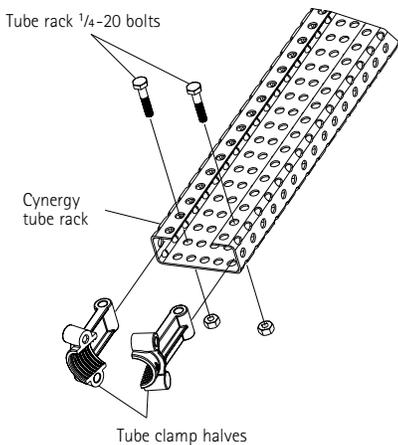

Figure 18
7. Slide one tube clamp set into one end of the tube rack. Secure the clamp halves to the rack through the second set of holes from the end of the rack using two 1/4-20 bolts and corresponding nuts (see Figure 18). Reference Table 23 for correct bolt size. **Do not tighten the nuts.**